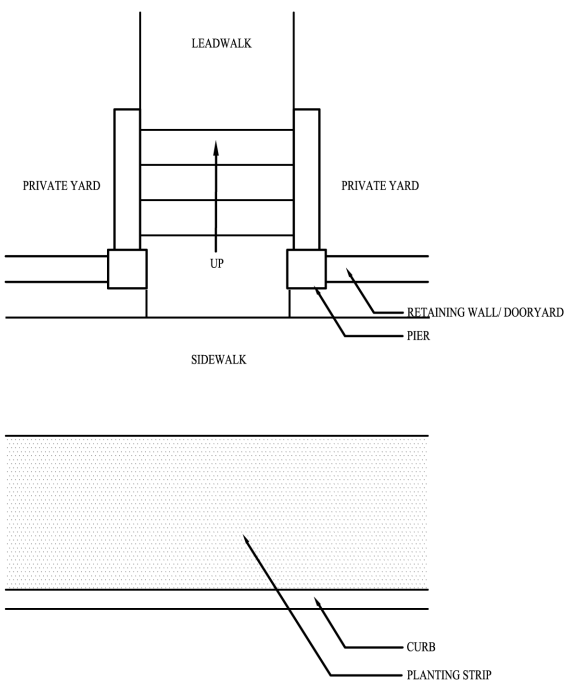

Figure 30
- » Brick or stone piers may mark the pedestrian entrance to a private yard. See Figure 30.
- » Lot leadwalks shall connect with street sidewalks and/or driveways. See Figure 30.
- » Brick or stone piers and/or garden walls shall be set 12” minimum and 24” maximum off street sidewalks. See Figure 30.